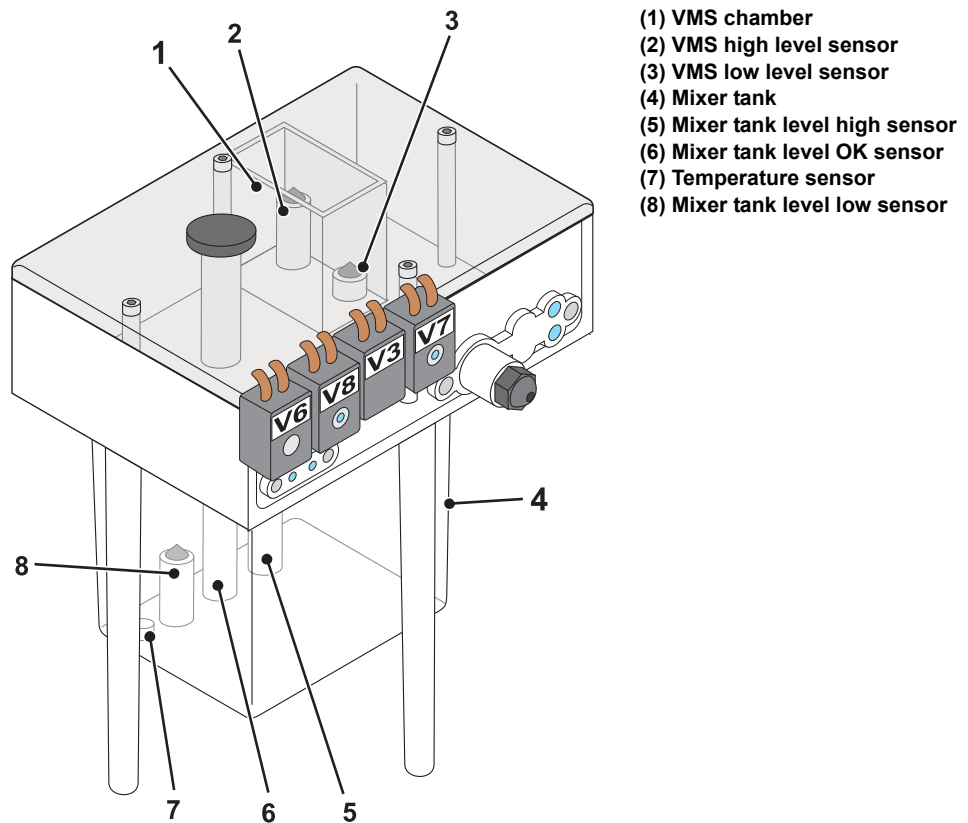

Figure 6-19. FMS Components
- Mixer tank (Item 4 in Figure 6-19).
- Mixer tank level high sensor (5).
- Mixer tank level OK sensor (6).
- Mixer tank level low sensor (8).
- Mixer tank ink temperature sensor (7).
- Viscosity Monitoring System (VMS) (1).